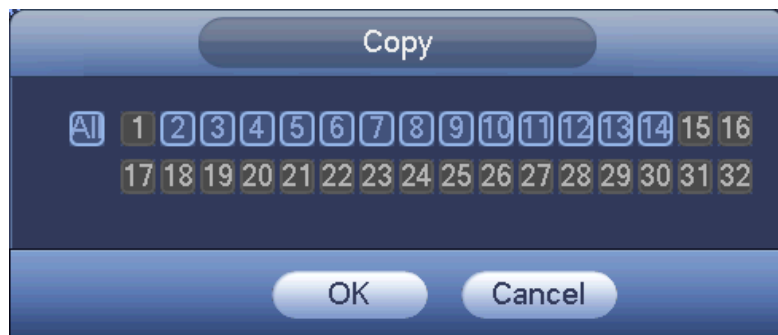

Figure 3-48
- Copy: After you complete the setup, you can click Copy button to copy current setup to other channel(s). You can see an interface is shown as in Figure 3-48. You can see current channel number is grey. Please check the number to select the channel or you can check the box ALL. Please click the OK button in Figure 3-48 and Figure 3-42 respectively to complete the setup. Please note, once you check the All box, you set same encode setup for all channels. Audio/video enable box, overlay button and the copy button is shield.
Copy function allows you to copy one channel setup to another. After setting in channel 1, click Copy button, you can go to interface Figure 3-48. You can see current channel name is grey such as channel 1. Now you can select the channel you want to paste such as channel 5/6/7. If you want to save current setup of channel 1 to all channels, you can click the first box "ALL". Click the OK button to save current copy setup. Click the OK button in the Encode interface, the copy function succeeded.
Please note, if you select ALL in Figure 3-48, the record setup of all channels are the same and the Copy button becomes hidden.